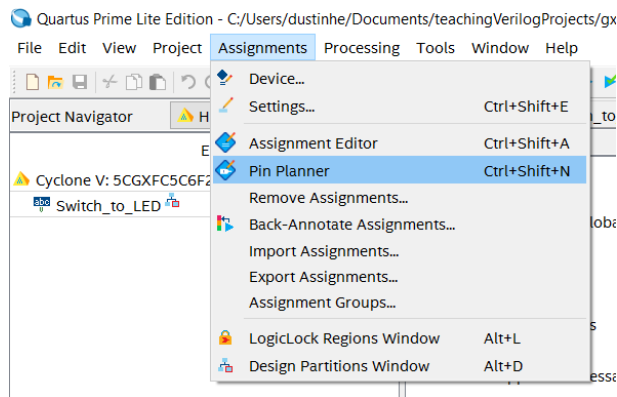
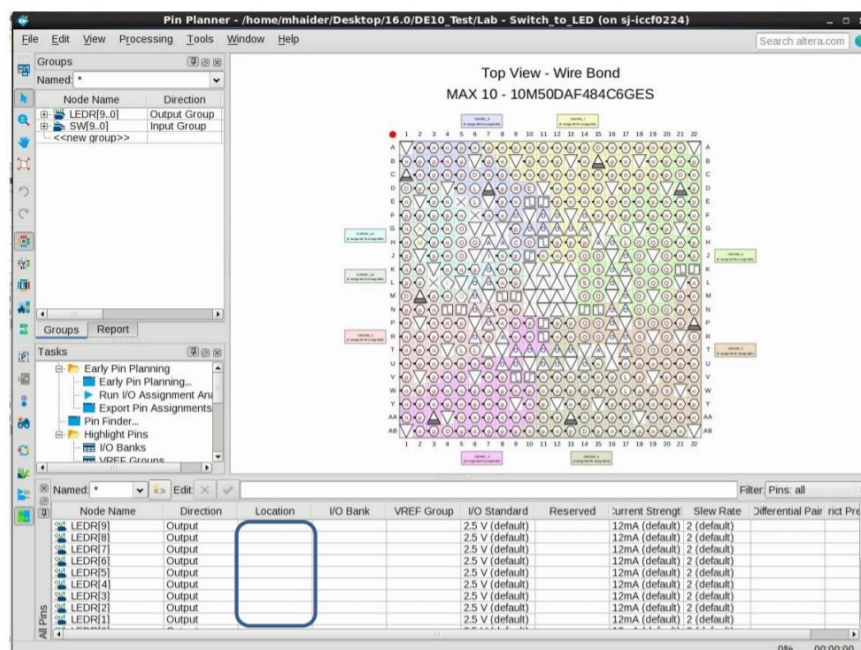

Figure 11: Quartus Assignments menu
Figure 12: Pin Planner Assignment window
- Using the main toolbar at the top of the Quartus window, navigate to the **Assignments** dropdown menu as shown above in Figure 11. Click on **Pin Planner** and a window similar to the image in Figure 12 should open.